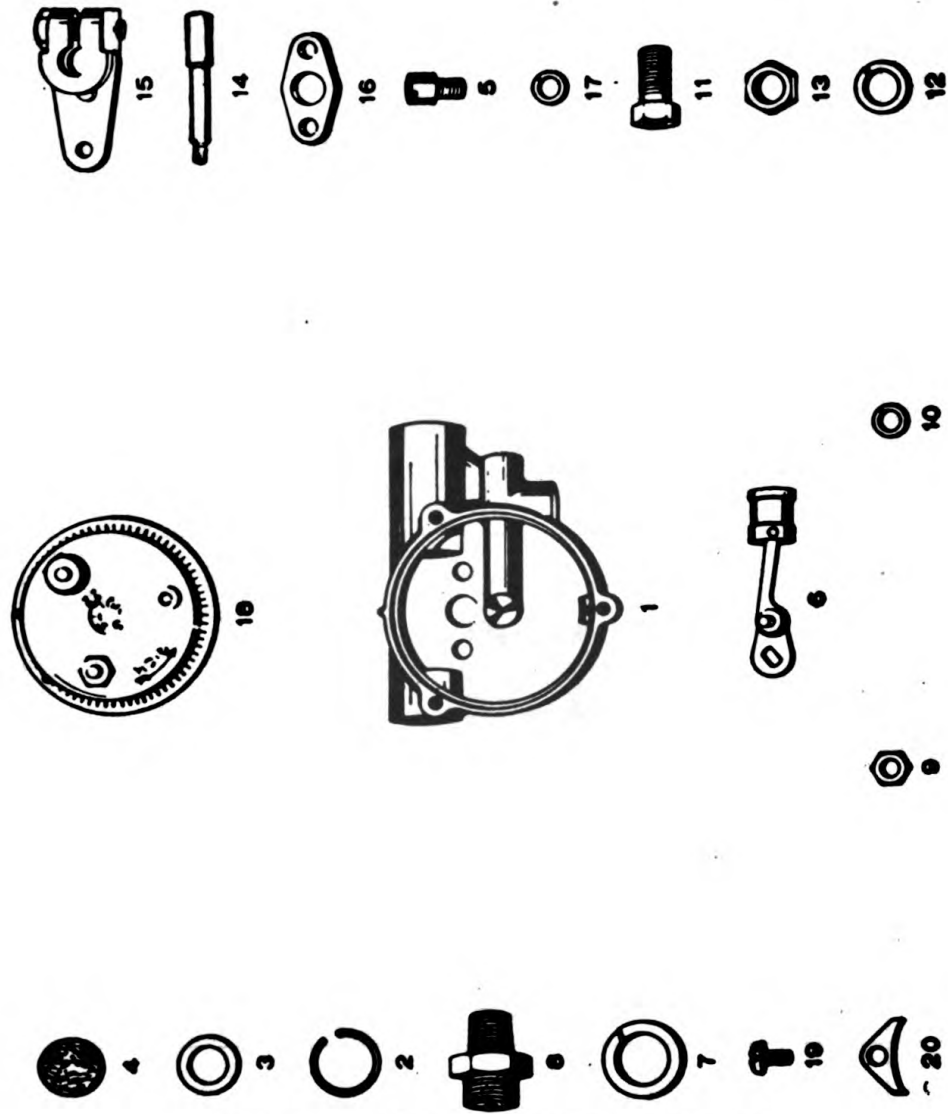

FIGURE 19—AUTOMATIC CHOKE—DISASSEMBLED
f. Automatic Choke (Figure 19).